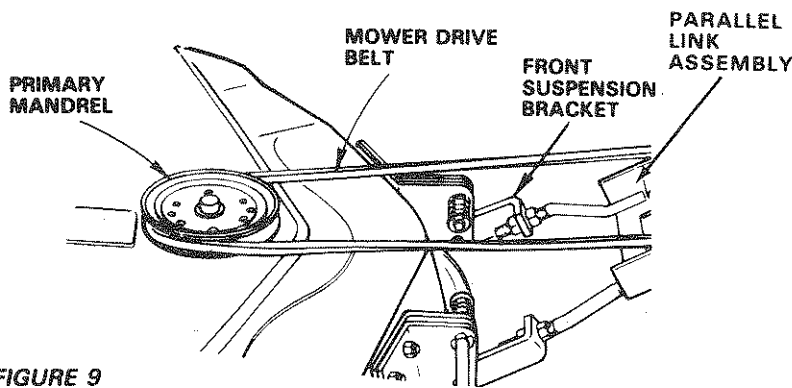

FIGURE 9
- Roll drive belt over primary mandrel (Fig. 9).
**BEFORE DRIVING THE TRACTOR, INSTALL MOWER OR REMOTE FRONT PARALLEL LINK ASSEMBLY AND RAISE MOWER SUSPENSION ARMS TO HIGHEST POSITION (Fig. 9).**